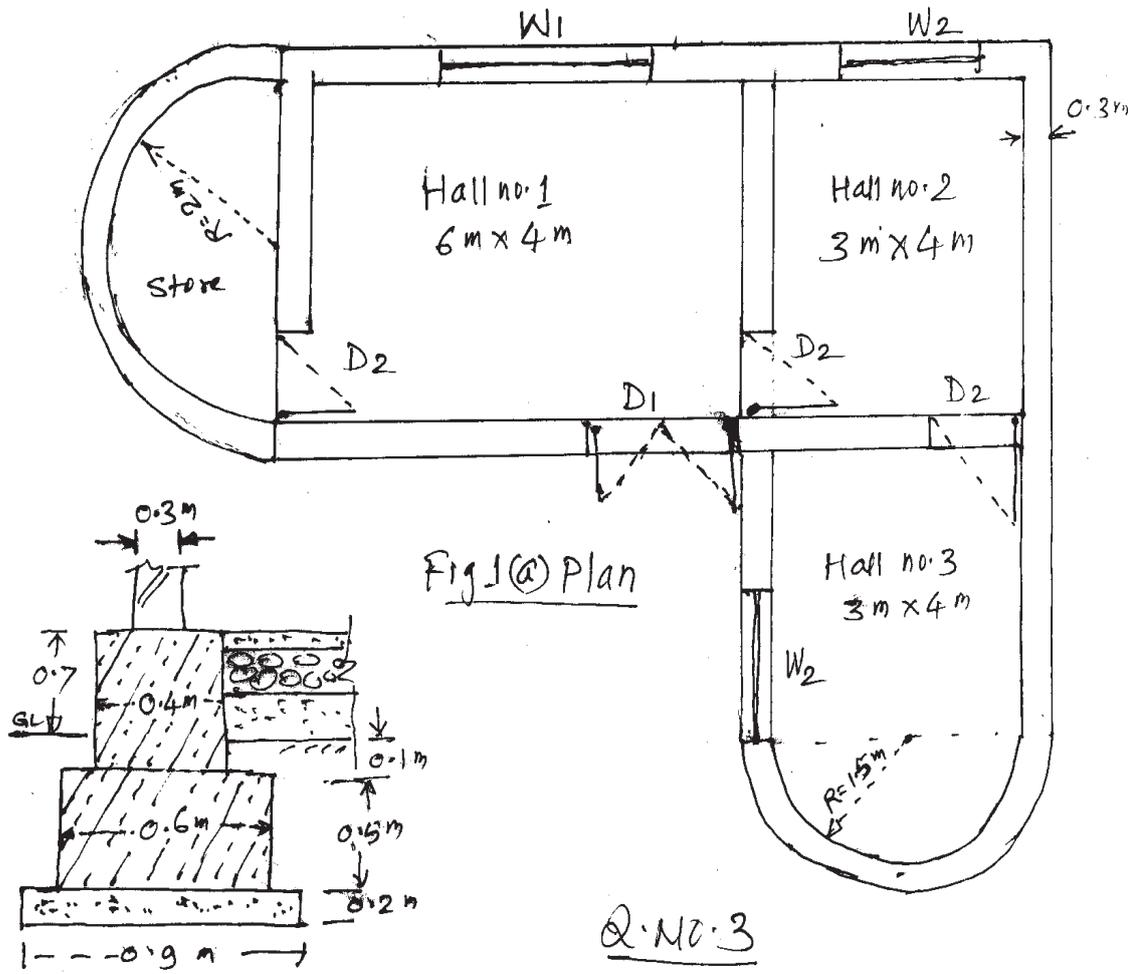

Fig 1(b) section
Q3) a) Figure 1 shows plan and section of a load bearing office building. Determine the quantities of following items and enter in a measurement sheet.
- Q2) a) Determine the forces in the two-bar truss supported by a spring as shown in fig.1 Take $E = 200 \text{ GPa}$ and $A = 5 \times 10^{-4} \text{ m}^2$. Bar one has a length of 5m and bar two a length of 10m. The spring stiffness is $k = 2000 \text{ kN/m}$. [12]